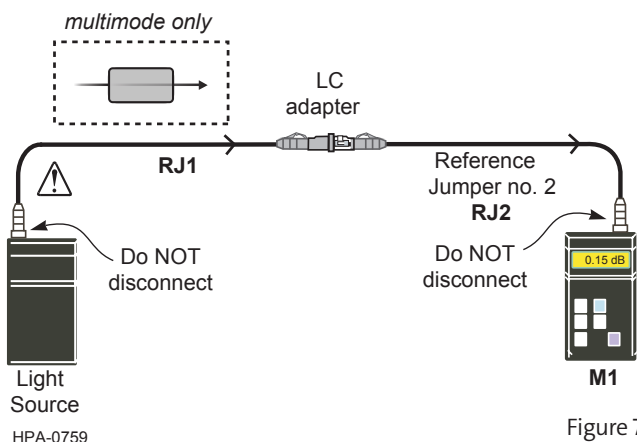

Figure 7
Step 6: Clean and install an LC to LC jumper- Reference Jumper no. 2 (**RJ2**) into **M1** and the LC adapter (Figure 7).